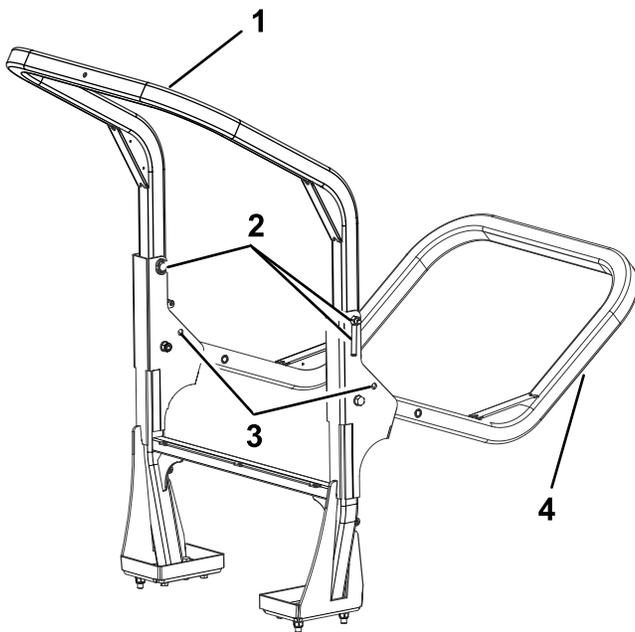

Figure 26
2. Support the weight of the upper frame of the roll bar while removing the snap pins and clevis pins from the pivot brackets (Figure 26).